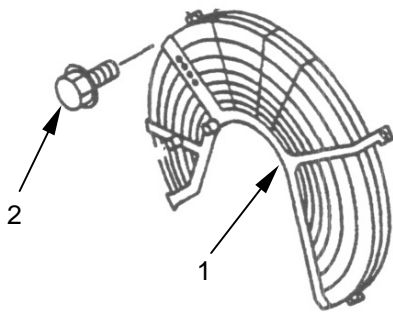

Figure 16. Fan Shroud Mounting Bolts
- b. Loosen and remove fan shroud (**figure 16, item 1**) mounting bolts (**figure 16, item 2**).
- c. Remove fan shroud (**figure 16, item 1**).
- j. Install fan shroud (**figure 16, item 1**).
- k. Install and tighten fan shroud mounting bolts (**figure 16, item 2**).